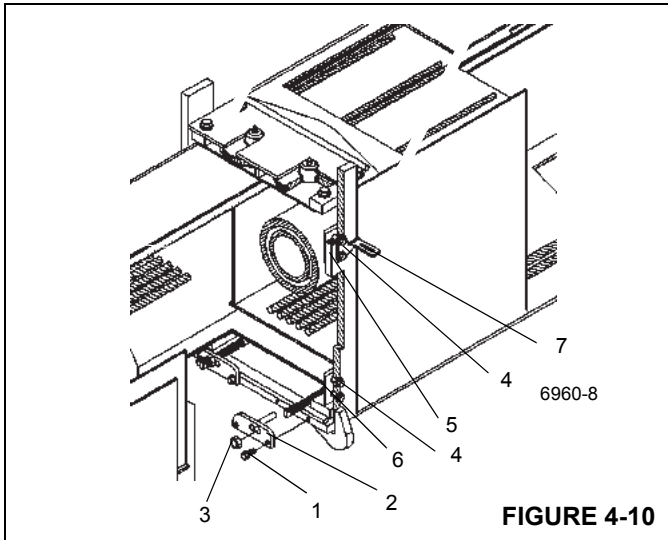

FIGURE 4-10
- Remove the capscrews and washers (1) securing the fly retract cable anchor plates (2) to the lower front of the inner mid section. Remove the cable locknuts and the anchor plates (3) from the cables (Figure 4-10).
10. Remove the capscrews and washers (4) securing each top (5) and bottom (6) side wear pad at the front of the inner mid (Figure 4-10). Remove wear pads, shims, and mounting angle (top left side only) (7).